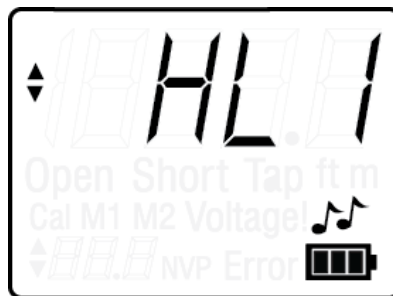

Figure 11. Tone Mode with HL1 Cadence
3. Press the TONE button. The LCD display screen updates with the following symbols and icons (see Figure 11):